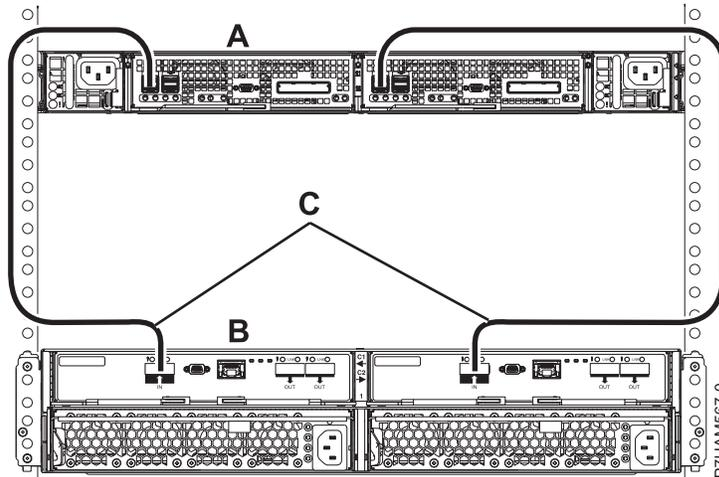

Figure 33. Mode 1 connection of one 58/87 disk drive enclosure by using EX cables to a PCIe storage enclosure
- m. Perform the mode 1 connection of one 58/87 disk drive enclosure (B) by using EX cables (C) to a PCIe storage enclosure with support for SAS disk drawers (A) as shown in Figure 33 on page 30.
- Each internal adapter in the PCIe storage enclosure (A) has access to the other adapter and to all disk drive bays.
- Both EX cables (C) from the same 58/87 disk drive enclosure must be attached to the same numbered SAS port on the PCIe storage enclosure as shown in Figure 33 on page 30.